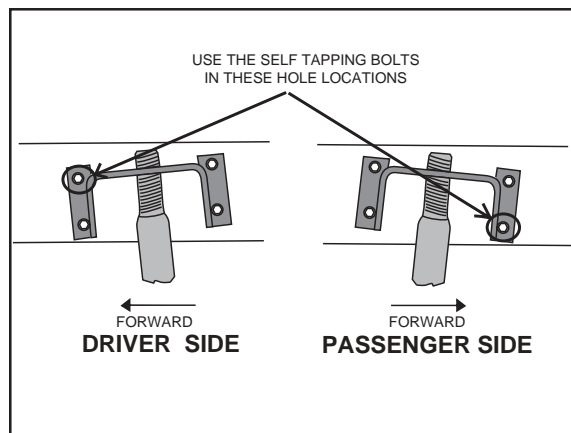

Figure 3
- d. Rotate the upper bracket back to the original location and install a bolt (L), flat washer(M), and nylock nut (J) through the second hole that was drilled.
- f. Centerpunch and drill a third 3/8" hole through the rear, lower mounting hole and insert a 3/8" bolt (L), flat washers (M), and a nylock nut (J). Tighten to 20 ft/lbs.
- g. A self-tapping screw (P) is required in the forward, lower mounting hole (Figure 3). Drill a 5/16" hole and insert and tighten the self-tapping screw.
- a. Centerpunch and drill a 3/8" hole through the forward, lower mounting hole. Insert the 3/8" bolt (L), flat washers (M), and nyloc nut (J). Leave loose at this time.
- e. Centerpunch and drill a third 3/8" hole through the rear, upper mounting hole and insert a 3/8" bolt (L), flat washers (M), and nylock nut (J).
- f. A self-tapping screw (P) is required in the forward, upper mounting hole (Figure 3). Drill a 5/16" hole and place a shim (U) between the upper bracket and the frame. Insert and tighten the self-tapping screw.